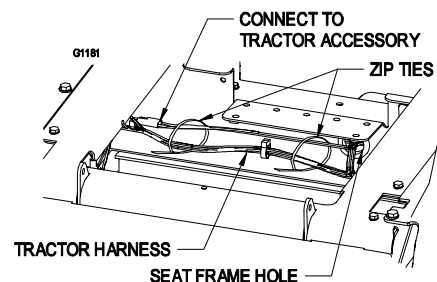

FIGURE 4
1. Remove the plug from the molded accessory connector located on the right side of the main tractor harness inside the seat box frame as shown in Figure 4.
2. Route bottom light kit harness connector through the seat frame hole and connect to the molded accessory connector on main tractor harness. Zip tie the light kit harness to the tractor harness where shown in Figure 4.